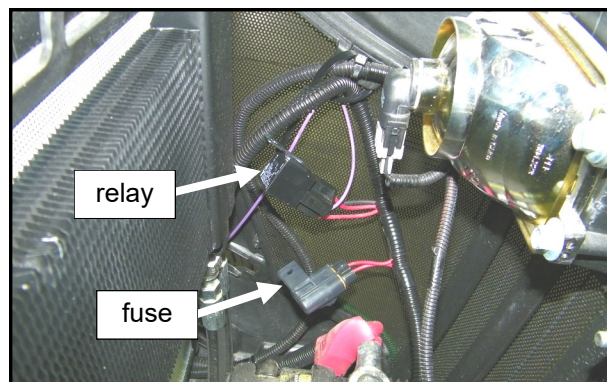

Fig. 2.2 (Wire Harness - Engine Bay of Vehicle)
2.2 Place the wire harness battery terminal rings near the battery terminal and secure the fuse and relay to factory wire tie mount with wire ties provided as shown. See Fig. 2.2.